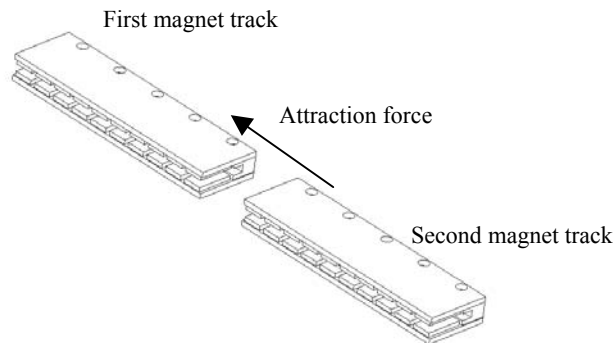

Figure 3
- (3) When joining magnet tracks together, place the second magnet track temporarily in line and at least 30 mm apart from the first magnet track. Next, while pressing the second magnet track down closely on the machine's reference surface, push the second magnet track against the first magnet track. After confirming the mounting position, secure the second magnet track using bolts. Make sure that fingers do not get jammed due to the magnetic attraction between the magnet tracks. (Refer to Figure 3).